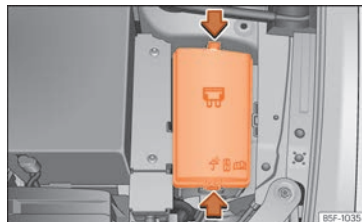

Fig. 53 In the engine compartment: fuse box cover.
- Press the locking tabs to release the fuse box cover »» Fig. 53.